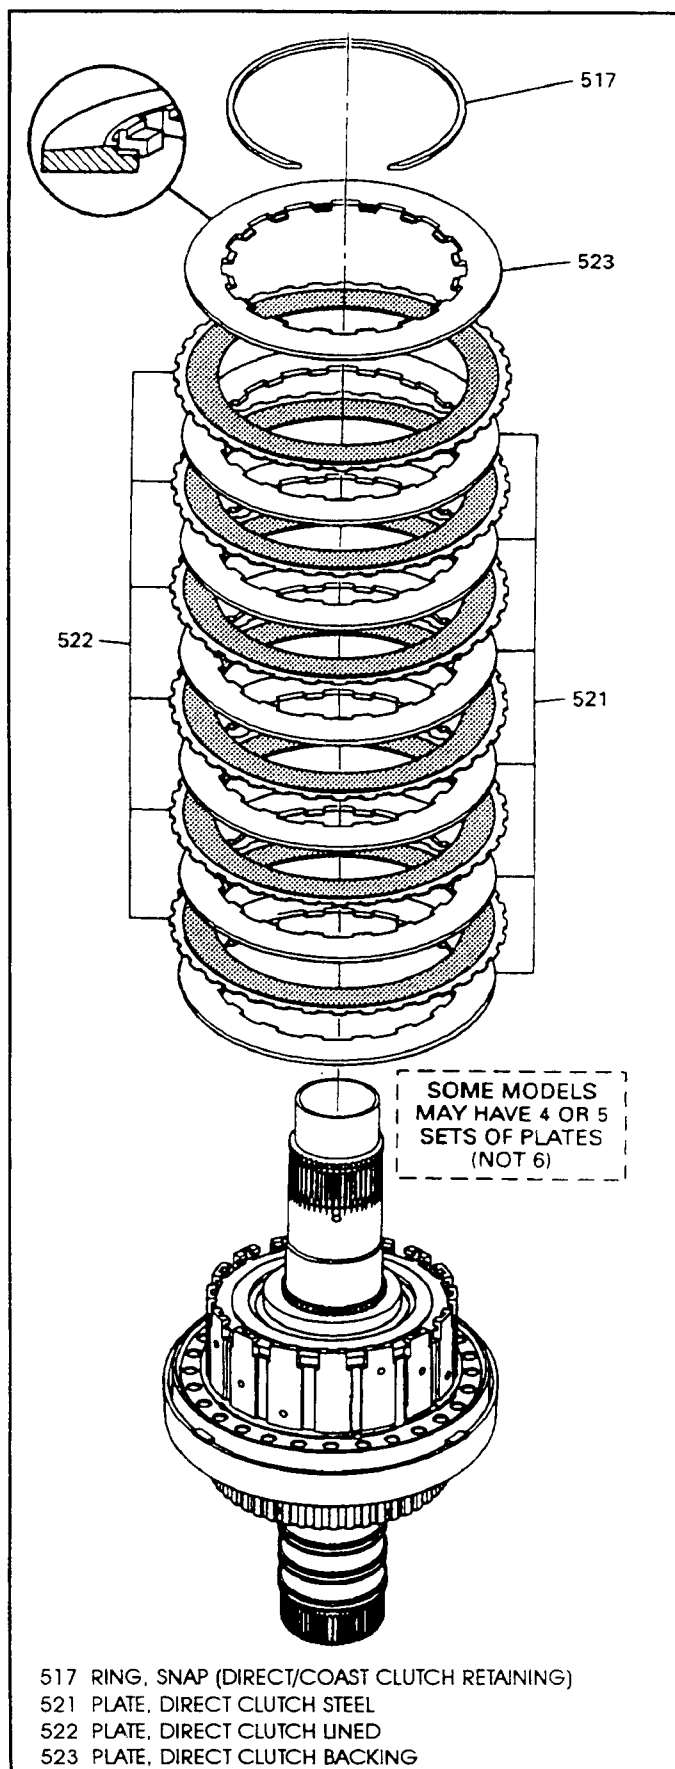

Figure 135
28. Install the direct clutch plates beginning with a steel plate and alternating with lined plates, as shown in Figure 135.
29. Notice that the direct clutch lined plates have external splines, and the steel plates are internal splines (See Figure 135).
30. Install the direct clutch backing plate with the flat side facing down as shown in Figure 135.
31. Install the internal snap ring (517) to retain the input sprag and direct clutch plates as shown in Figure 135.